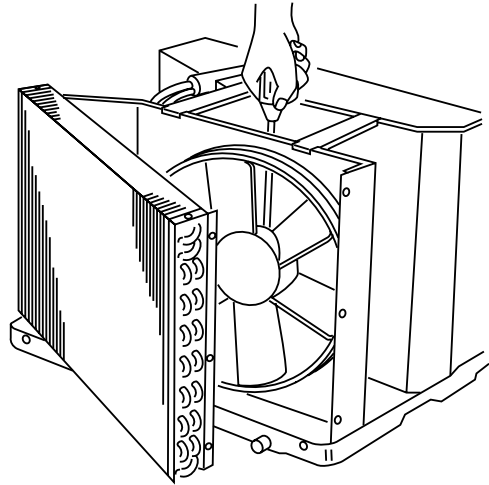

Fig. 26
- (1) Loosen a nut holding propeller fan on motor shaft with hex socket wrench. (Fig. 26)
- (2) Extract the fan from the motor shaft.